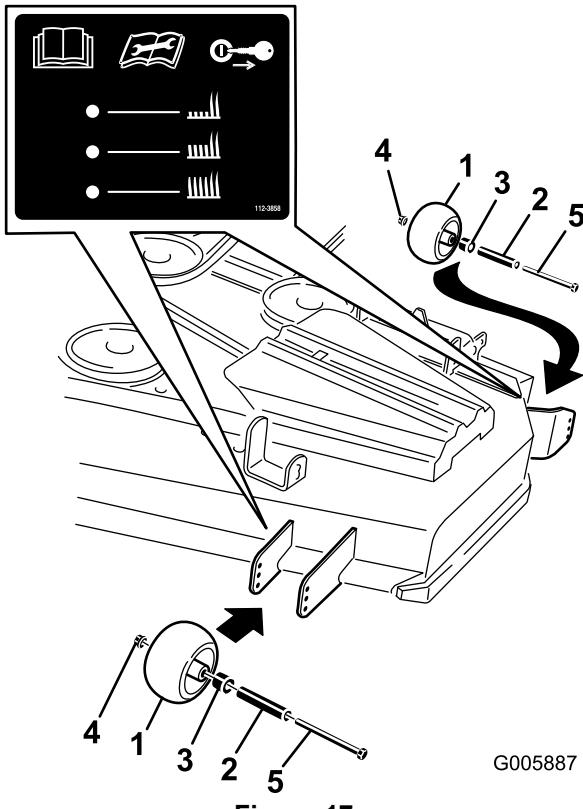
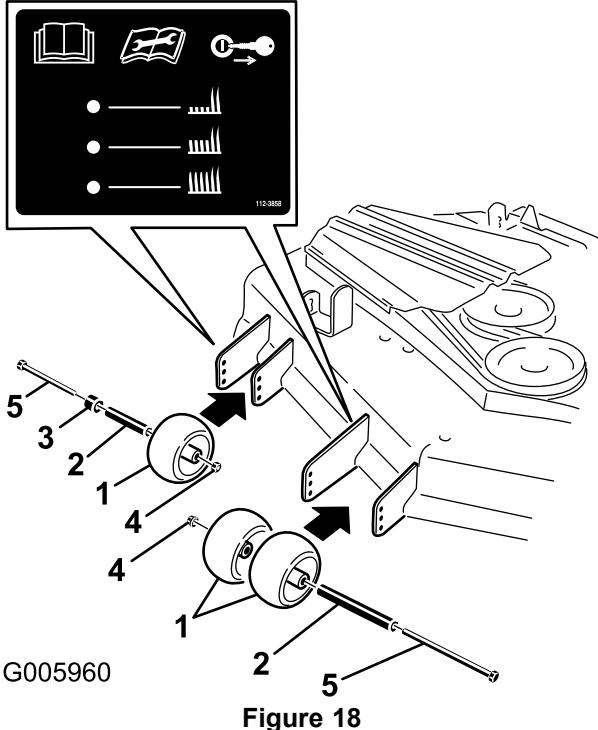

Figure 17
Figure 18
3. After adjusting the height-of-cut, adjust the rollers by removing the flange nut, bushing, spacer, and bolt (Figure 17 or Figure 18).
Note: The two middle rollers will not have a spacer (Figure 17 or Figure 18).
5. Install the flange nut, bushing, spacer, and bolt. Torque to 40-45 ft-lb (54-61 N•m) (Figure 17 or Figure 18).